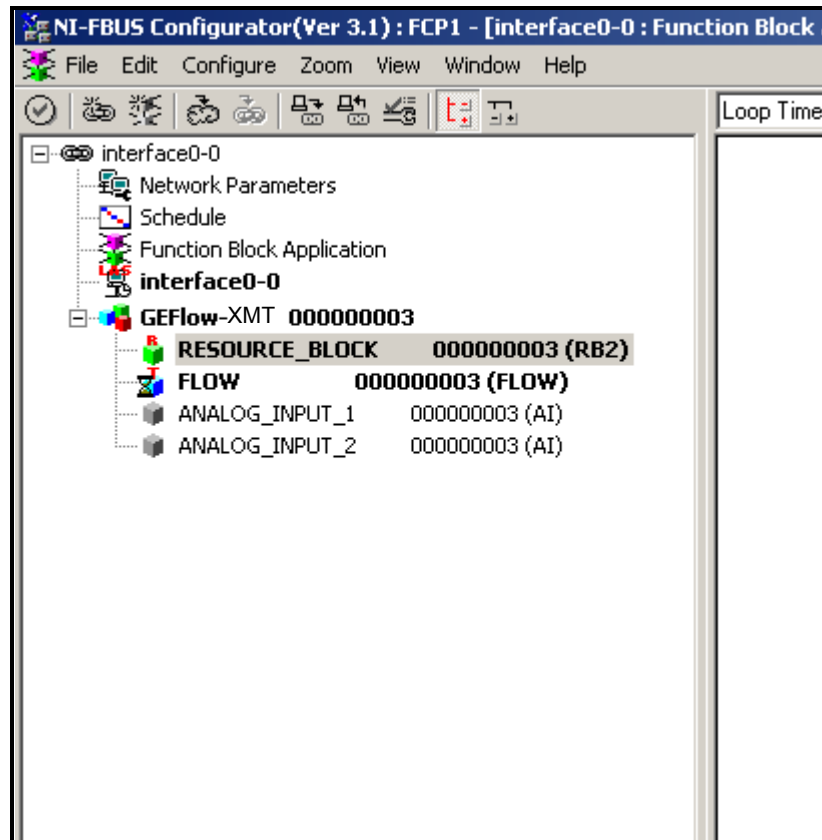

Figure 58: Configuration Utility Setup Example
Figure 58 shows the Configuration Utility with a flowmeter on the network (GE Flow-XMT).
1. Double click on the AI block for which you wish to set the units (ANALOG_INPUT_1 or ANALOG_INPUT_2 in the tree under GEFlow-XMT; see Figure 58 on page 152).
1. Double click on the FLOW transducer block (in the tree under GEFlow-XMT; see Figure 58 on page 152).